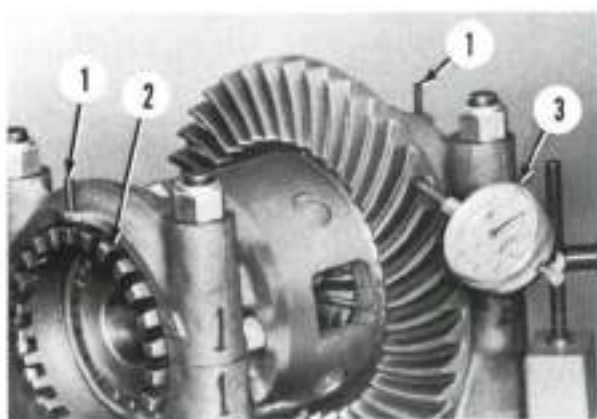

Fig. 30—Dial indicator probe should be against outer tip of ring gear tooth when measuring backlash.
36. DIFFERENTIAL CARRIER BEARINGS AND BEVEL GEAR BACKLASH. Pinion shaft protrusion and bearing preload must be properly set before adjusting differential carrier bearings. Install differential unit in carrier housing making certain ring gear is aligned with drain hole in carrier as shown in Fig. 29. Install bearing support caps, but do not tighten retaining nuts securely at this time. Install bearing adjuster rings and turn adjuster ring on ring gear side of differential until ring gear contacts pinion gear. Then turn adjuster ring on side opposite ring gear until all bearing end clearance is removed, but do not preload bearings. Mount dial indicator as shown in Fig. 30, then hold pinion shaft and move ring gear to check backlash. Turn adjuster rings as needed to move ring gear sideways to obtain recommended backlash of 0.15-0.25 mm (0.006-0.010 inch). Loosen adjuster ring one notch at a time and tighten opposite adjuster ring the same amount when setting backlash.
After bevel gear backlash is properly adjusted, turn adjuster ring on each side of differential clockwise two notches to provide recommended bearing preload. Tighten bearing cap mounting nuts to 210 N·m (155 ft.-lbs.) torque, then recheck for correct backlash. Drive roll pin (1—Fig. 30) into notch of each adjuster ring to secure adjustment.